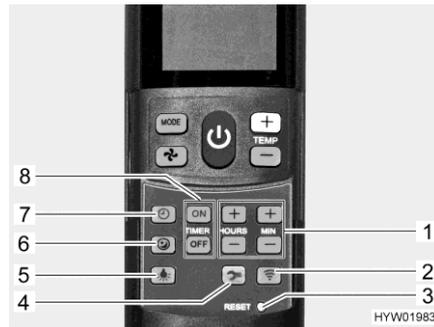

Fig. 224 Remote control with setting buttons (air conditioning unit)
Activating soft-start: ■ Press the soft-start button (Fig. 224,6). The fan then runs at low speed in cooling mode, which makes it especially quiet.
Setting the time: ■ Press the time button (Fig. 224,7).
■ Set the hours and minutes with the buttons (Fig. 224,1).
Programming the switching on time: ■ Press "ON" button (Fig. 224,8).
■ Press the buttons for setting the time (Fig. 224,1) until the desired time span until switch-on is reached.
■ Press "ON" button (Fig. 224,8).
Programming the switch-off time: ■ Press "OFF" button (Fig. 224,8).
■ Press the buttons for setting the time (Fig. 224,1) until the desired time span until switch-off is reached.
■ Press "OFF" button (Fig. 224,8).
Deactivating the timer: ■ Press the "ON" or "OFF" button (Fig. 224,8) again.
Switching on the lighting: ■ Press the light button (Fig. 224,5). The light is switched on at the last set dimming level.
Dimming the lighting: ■ Press the light button (Fig. 224,5) and keep it pressed until the desired brightness is reached.
Switching off the lighting: ■ Press the light button (Fig. 224,5).
▷ The Setup button (Fig. 224,4) is used to connect the remote control with the air conditioning unit during first set-up.